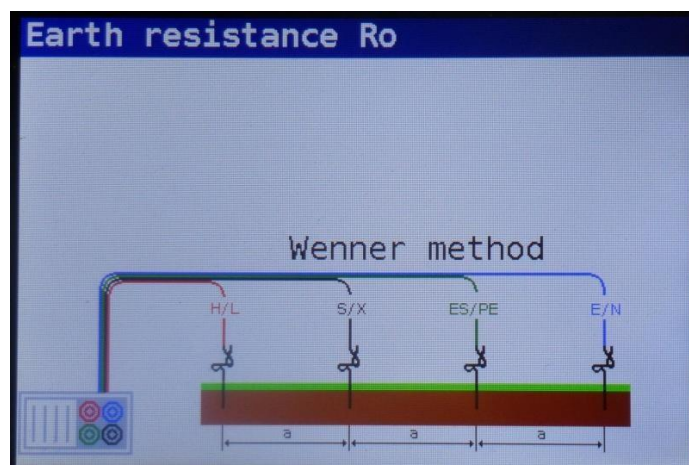

Figure 5-51: Connection diagram
Step 3 Follow the connection diagram shown in figures 5.51 to perform the **Specific Earth Resistance** measurement.